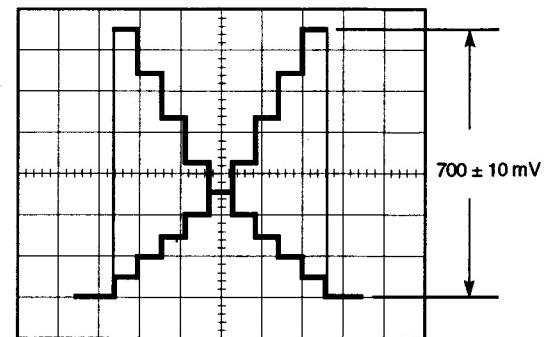

Fig. 5-1-24
- Adjust VR101 so that the Video signal level becomes 700 ± 10 mV as shown in Fig. 5-1-24.
- Adjust VR201 so that the Video signal level becomes 700 ± 10 mV as shown in Fig. 5-1-24.
- Adjust VR301 so that the Video signal level becomes 700 ± 10 mV as shown in Fig. 5-1-24.